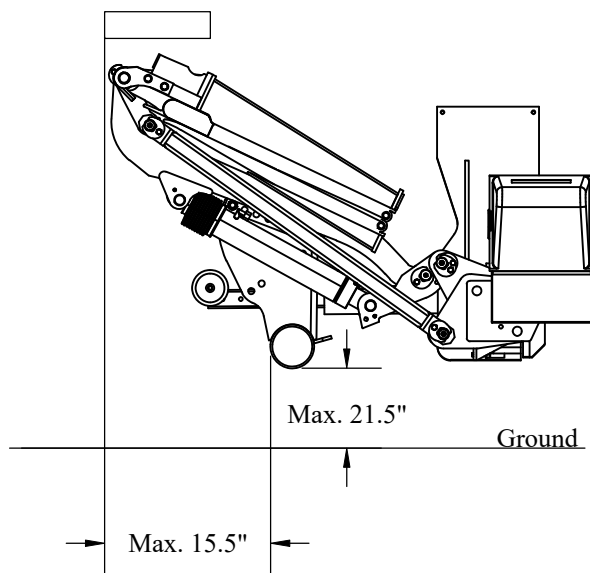

Figure 24: Bumper Position
- respect maximum distance from ground and deck extension (Figure 24)